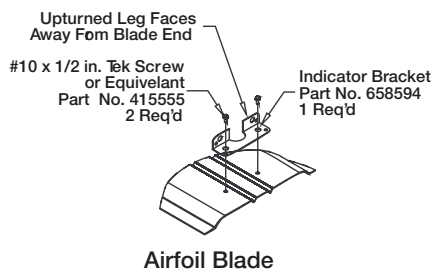
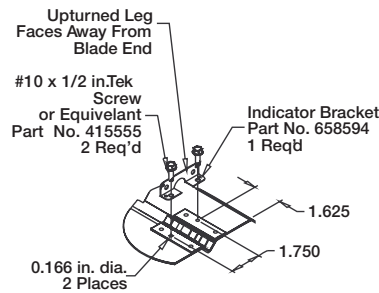

Figure 2:
Figure 3: 3-V Blade
2. Attach indicator bracket to the blade. For an airfoil blade damper, use existing holes in blade (**Figure 2**). For a 3V blade damper, drill two 0.166 in. (4mm) diameter holes (**Figure 3**). Fasten bracket to blade with #10 x $\frac{1}{2}$ in. (13mm) TEK screws or equivalent.
1. Attach indicator bracket to the blade. For an airfoil blade damper, use existing holes in blade (**Figure 2**). For a 3V blade damper, drill two 0.166 in. (4mm) diameter holes (**Figure 3**). Fasten bracket to blade with #10 x 1/2 in. (13mm) TEK screws or equivalent.